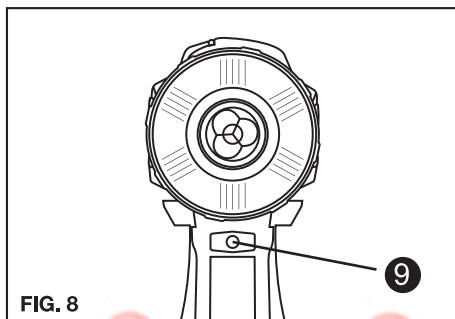

FIG. 8
7. USING THE LED LIGHT (SEE FIG. 8)